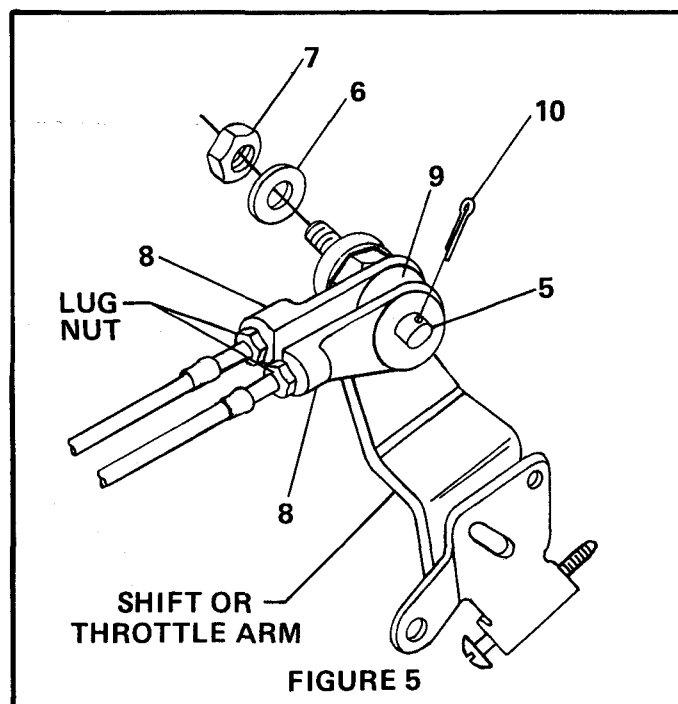

FIGURE 5
3. Install Pivot Pin (Item 5) thru hole in shift or throttle arm and attach using Lockwasher (Item 6) and Hex Nut (Item 7) as shown in Figure 5. Tighten hardware securely.
4. Thread one Cable Lug (Item 8) onto each Cable end. Adjust by threading or unthreading until hole in Cable Lug will pass over Pivot Pin. Install in the position shown in Figure 5, with Flatwasher (Item 9) between Cable Lugs as shown.